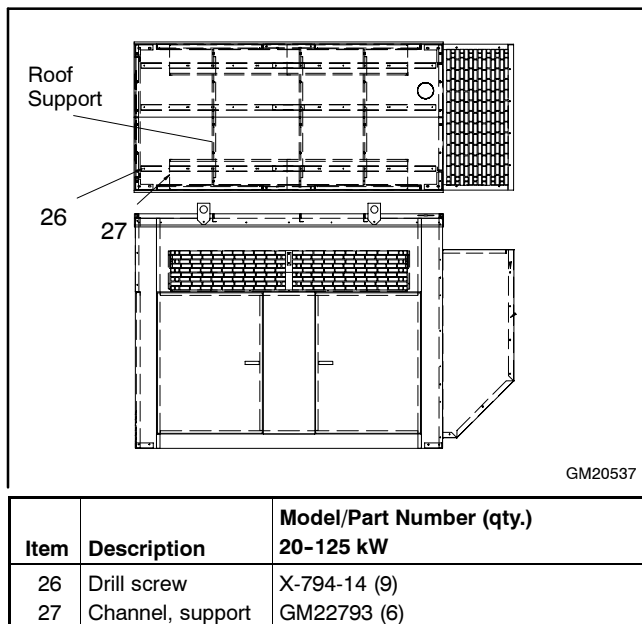

Figure 3 Installing Roof Support Channels
- 5.1 Install the six support channels GM22793 to the bottom of the roof supports using nine drill screws X-794-4. See Figure 3.